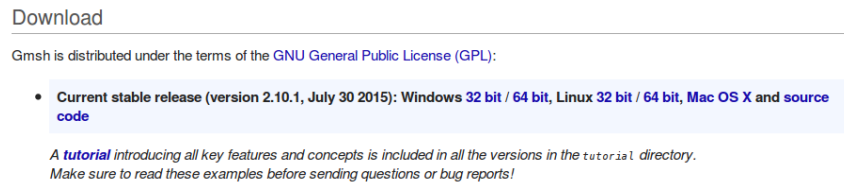

Figure 4.2: Download stable release
Open this website in your browser and scroll down to download. Now Download Gmsh according to the given current stable release Fig 4.2 according to your Operating System (OS).